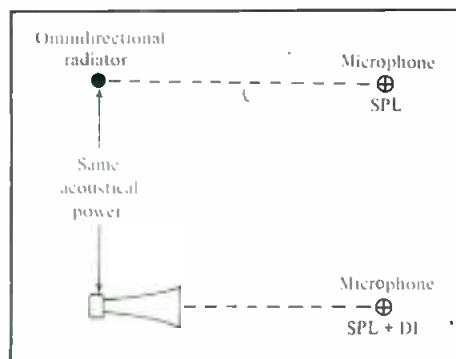

Figure 1. Directivity Index (DI).
The directivity index (DI) is a measure of the horn's on-axis directivity relative to an omnidirectional source radiating the same acoustical power. The notion is shown in FIGURE 1.